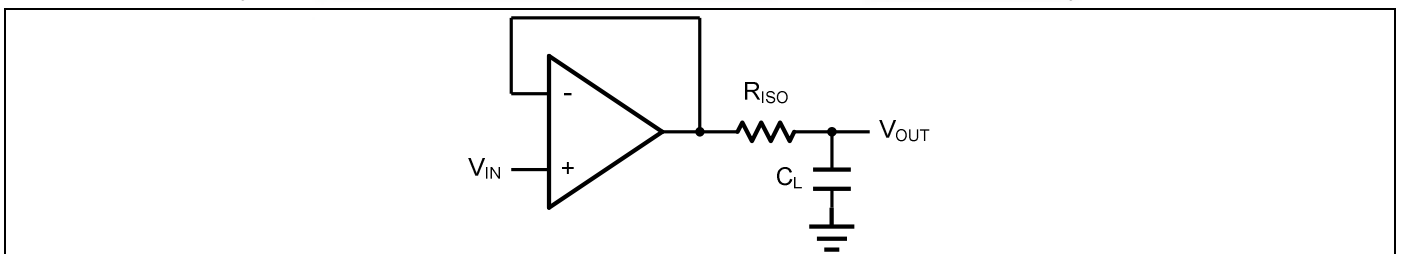
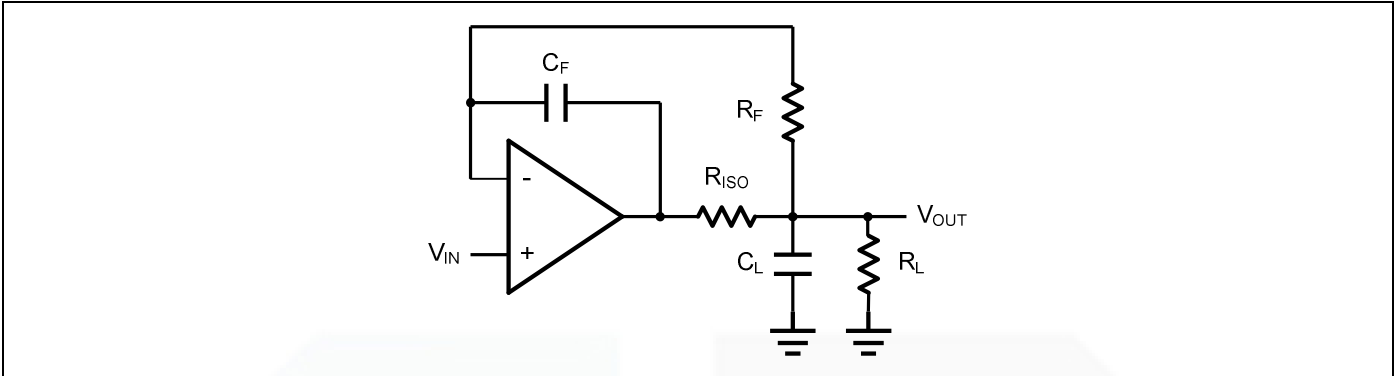

Figure 2 Indirectly Driving a Capacitive Load Using Isolation Resistor
Figure 3. Indirectly Driving a Capacitive Load with DC Accuracy
The GS6001 family is optimized for bandwidth and speed, not for driving capacitive loads. Output capacitance will create a pole in the amplifier's feedback path, leading to excessive peaking and potential oscillation. If dealing with load capacitance is a requirement of the application, the two strategies to consider are (1) using a small resistor in series with the amplifier's output and the load capacitance and (2) reducing the bandwidth of the amplifier's feedback loop by increasing the overall noise gain. Figure 2 shows a unity gain follower using the series resistor strategy. The resistor isolates the output from the capacitance and, more importantly, creates a zero in the feedback path that compensates for the pole created by the output capacitance.
The circuit in Figure 3 is an improvement to the one in Figure 2.  $R_F$  provides the DC accuracy by feed-forward the  $V_{IN}$  to  $R_L$ .  $C_F$